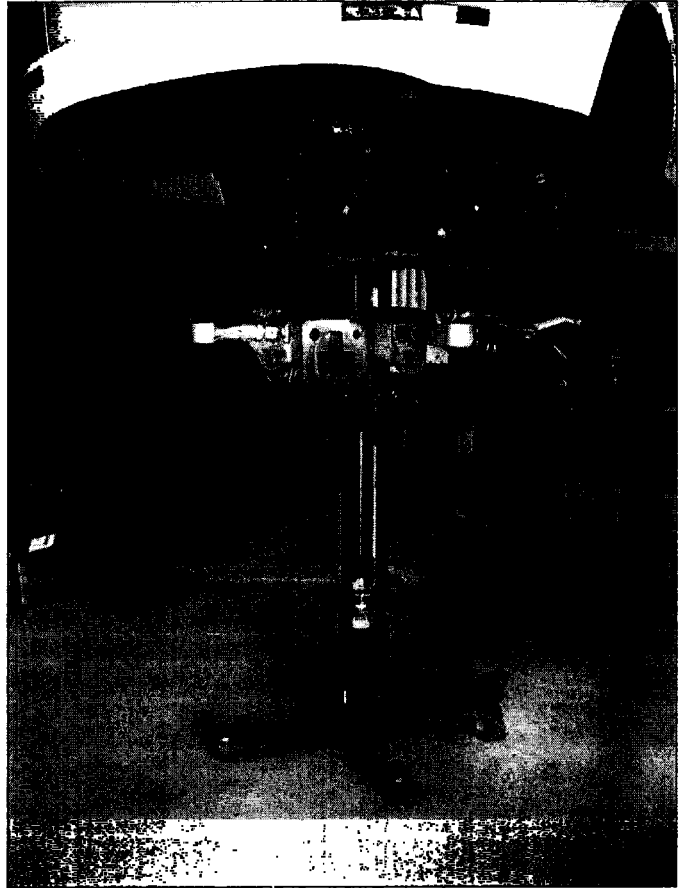

Figure 69
32. Carefully lower the suspension member out of the vehicle (see Figure 69) and place it in a safe location.